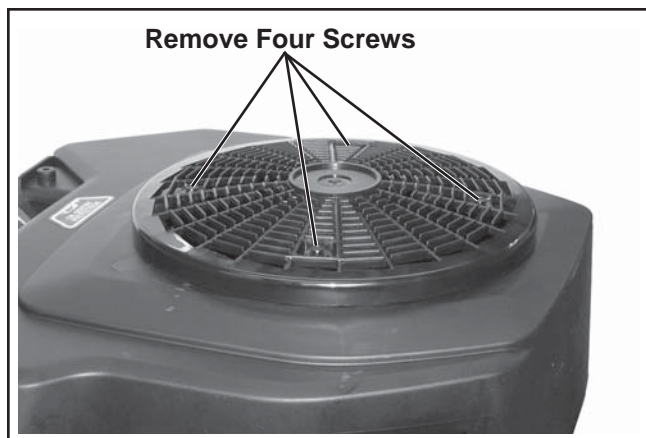
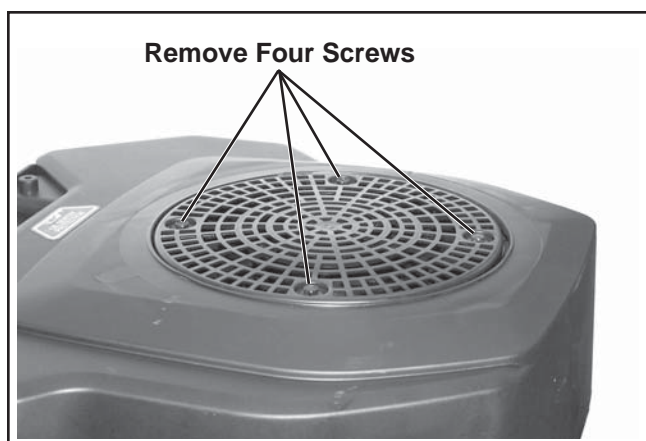

Figure 8-27. Plastic Grass Screen.
Figure 8-28. Plastic Grass Screen.
3. If there is a plastic grass screen attached to the fan, remove the four screws securing the grass screen. Removing the screen will expose the four screws fastening the fan to the flywheel. See Figure 8-27 and Figure 8-28.